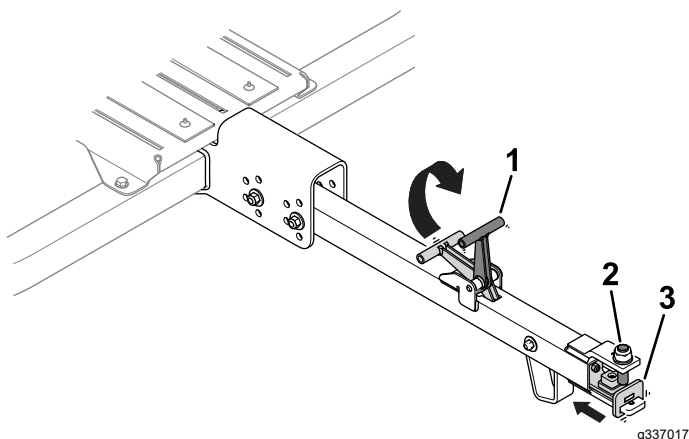

Figure 26
1. Lift up the tongue handle (Figure 26).